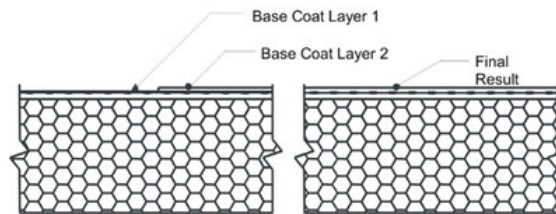

Figure 23
- a. The base coat shall be applied such that the resulting overall minimum base coat thickness is sufficient to **fully embed** the reinforcing mesh. The recommended method is to apply the base coat in two (2) passes.
- 3) Allow the base coat mixture to take up until firm to the touch. Trowel a second tight coat of the base coat mixture over the first coat to **fully cover** the reinforcing mesh - Figure 23. The result should be such that the reinforcing mesh is approximately centered within the base coat thickness. Do not allow the first pass to completely dry prior to the second pass application or an excessive amount of base coat mixture will be necessary to fully coat the wall surface.